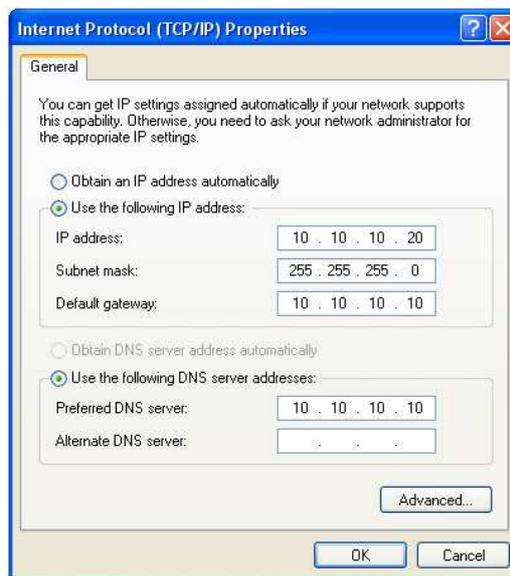

Figure 19: Internet Protocol (TCP/IP) Properties dialog box showing the recommended IP settings.
6. The Internet Protocol (TCP/IP) Properties dialog box, change the settings to match those shown in Figure 19, and then click “OK”